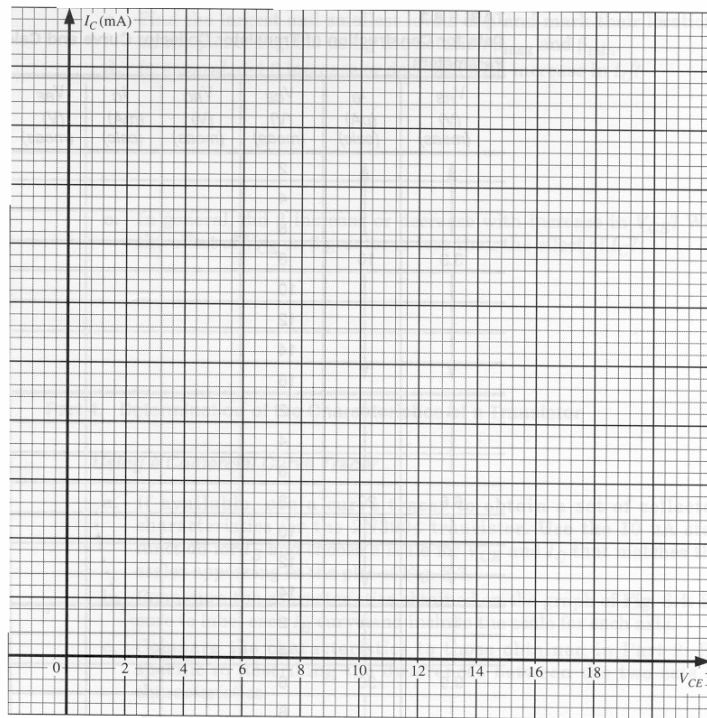

Figure 8.3 Characteristic curves from the experimental data of Part 2.
- i. Using the data of Table 8.3, plot the collector characteristics of the transistor on the graph of Fig. 8.3. That is, plot I_C versus V_{CE} for the various values of I_B . Choose an appropriate scale for I_C and label each I_B curve.
- c. Find the largest and smallest levels of β and mark their locations on the plot of Fig. 8.3 using the notation β_{\max} and β_{\min} .